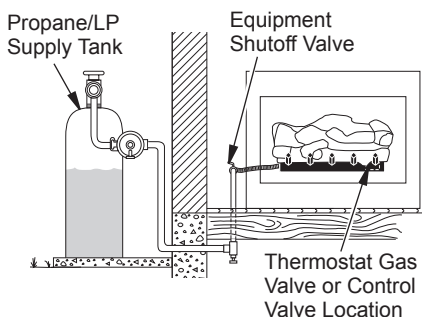

Figure 15 - Checking Gas Joints
3. Check all joints from gas meter to equipment shutoff valve for natural gas or propane/LP supply to equipment shutoff valve for propane/LP (see Figure 15 or 16, page 16). Apply noncorrosive leak detection fluid to all joints. Bubbles forming show a leak.
4. Check all joints from equipment shutoff valve to thermostat gas valve (see Figure 15 or 16). Apply noncorrosive leak detection fluid to all joints. Bubbles forming show a leak.